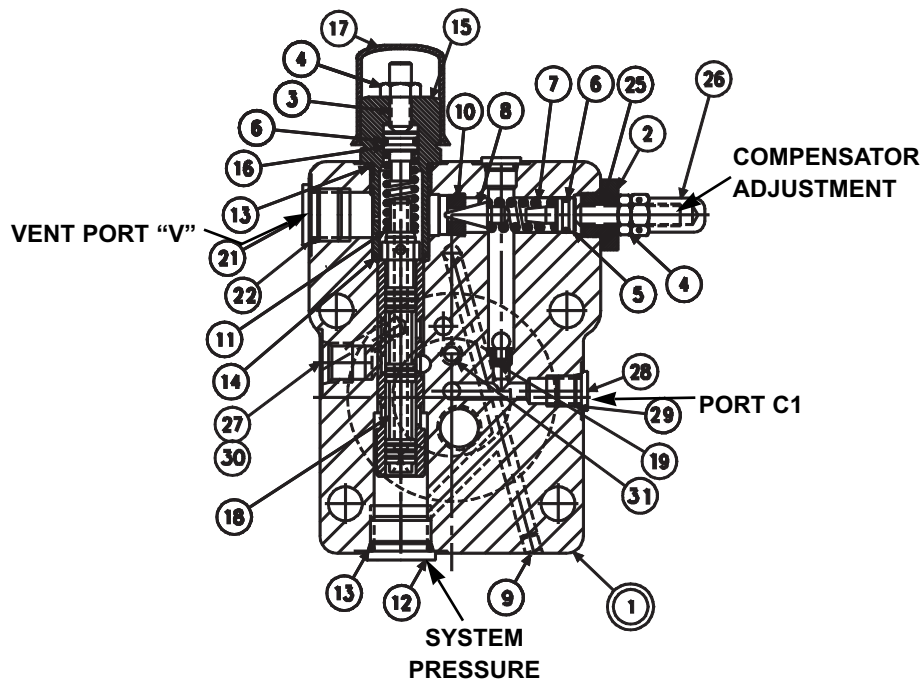
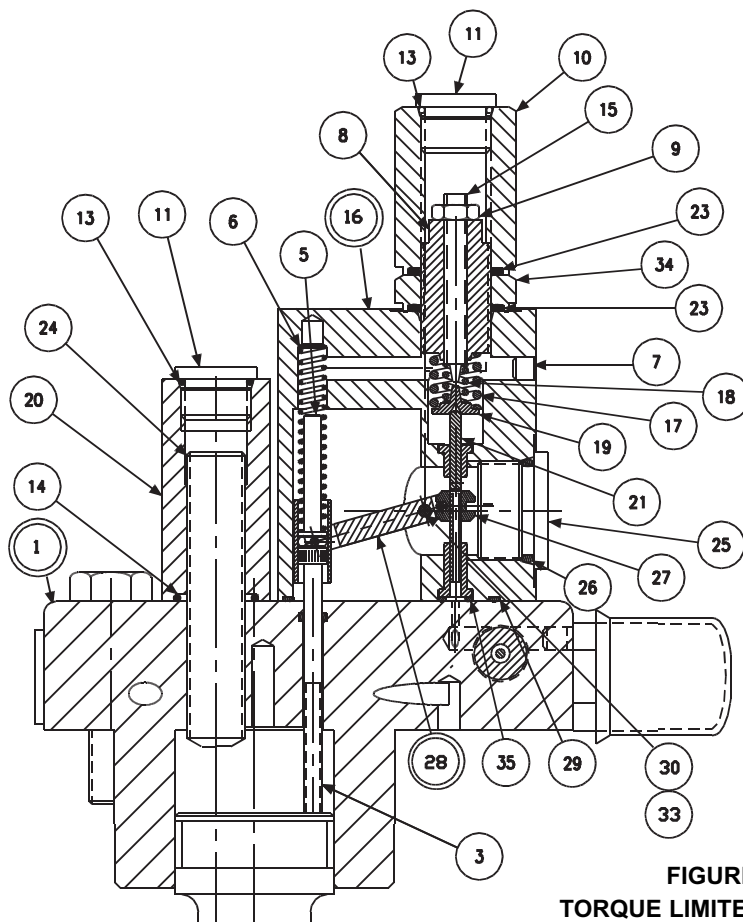

FIGURE 28
FIGURE 29
PARTS LIST FOR FIGURE 28
PARTS LIST FOR FIGURE 29
1. **See figure 29.** Remove 2 screws holding torque limiter body (16) to cap assembly (1).
2. Remove all parts from torque limiter body (16) except pin (30) and arm assembly (28). It is not necessary to remove these parts unless broken or worn. Examine parts for wear or damage.
3. Remove screw (3). Examine head for excessive wear, and body for smooth sealing surface with O-ring.
4. See figure 28. Remove maximum volume stop assembly (items 11, 13, 14, 20, 24).
5. Remove cap assembly (1).
6. Remove plug (15) and attached parts. Remove spring (11) and spool (18).
7. Remove adjusting plug (2) and attached parts. Remove seal piston (5). Note: a 10-24 screw may be attached to assist in pulling the piston. Remove spring (7) and cone (8).
8. Do not remove sleeve in body (1). Sleeve is pressed into cap and finished to size. If sleeve, snout or cap is worn, replace the cap-sleeve assembly (1).
9. Examine seat (10) for wear. Do not remove unless damaged.
1. **See figure 28.** Install Avseal plugs (9), plug (19), .032", 0,81 mm orifice (30).
2. Press seat (10) into bore squarely against shoulder in bore.
3. Install spool (18) into bore as shown. Install spring (11) over end of spool. Install O-ring (6) on seal piston (16). Lubricate and install into plug (15). Install O-rings (13) and (14) on plug (15) Install plug (15) into cap. Install screw (3), nut (4) and cover (17).
4. Install O-ring (6) on seal piston (5).
5. Lubricate O-ring and install cone (8), spring (7) and seal piston into bore in cap (1), being careful that cone enters seat (10). Install adjustment plug (2), screw (25), nut (4), and acorn nut (26).
6. Install plugs (12), (21) and (28) and torque.
7. Carefully install O-ring (31) into the cap.
9. Install maximum stop screw (24), nut (20), O-ring (14) and plug (11) with O-ring (13).
10. **See figure 29.** Apply thread locking compound on threads of screw (3), lubricate the shank, thread through the cap into the control piston, and torque to 5 lb.*ft., 6,78 Nm.
12. Press dowel (30) into body (16), through the link assembly (28), to 1/4", 6,35 mm below surface. Apply hydraulic sealant to threads of screws (33) and install over dowel (30).
13. While sleeve (27) is engaged into dowel on link (28), slide spool (21) into bore of body (16), and through sleeve (27). Spool (21) must move freely and easily at all positions of the link (28).
14. Assemble remaining parts per drawing. Torque plug (11).
15. While spring retainer is engaging clevis pin (5) under dowel of link (28), slide the other opening of spring retainer over the top of the screw (3). Attach body assembly (16) to cap (1) and torque assembly screws to 75 lb.*ft., 102 Nm.